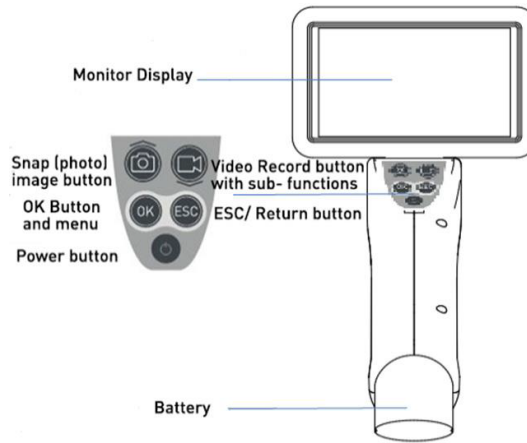

Figure 4
5. Press the Power Button to turn the unit on. Ensure that status screen shows up briefly and clock is running. **Fig. 4**